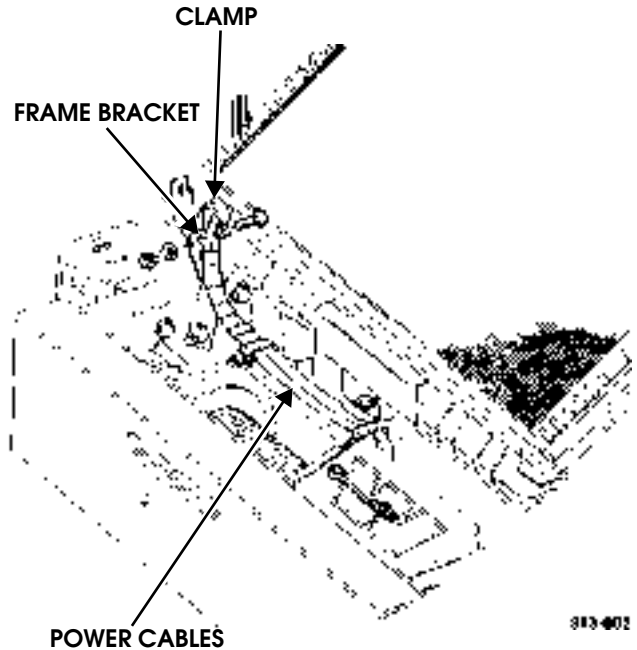

Figure 9-159: Frame Bracket
3. Remove nut, lockwasher, capscrew, and clamp from right frame extension. Discard lockwasher. Pull winch cables through the splash shield to front of vehicle (Figure 9-159).
8. Install winch cables on frame bracket with clamp, capscrew, lockwasher, and nut (Figure 9-159).